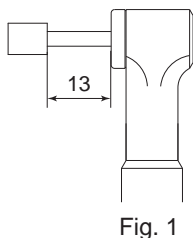

Fig. 1
- ④ Do not touch the cutting tool while it is rotating. It is very dangerous.
- ⑤ Wear safety glasses, dust mask, and use a protective cover around the Attachment whenever the Attachment is rotating.
- ⑥ When installing a cutting tool, tighten the collet correctly and check again the collet before use. Do not over-tighten the collet. This may cause damage to the spindle.
- ⑦ Do not use grindstones with an outside diameter over  $\phi 40\text{mm}$ .
- ⑧ Do not exceed 13mm of overhang for mounted grindstones as shown in Fig. 1. If the overhang must exceed 13mm, reduce the motor speed in accordance with Table 1.
- ⑨ Do not use bent, broken, chipped, out of round or sub-standard cutting tools as they may cause shatter or explode.